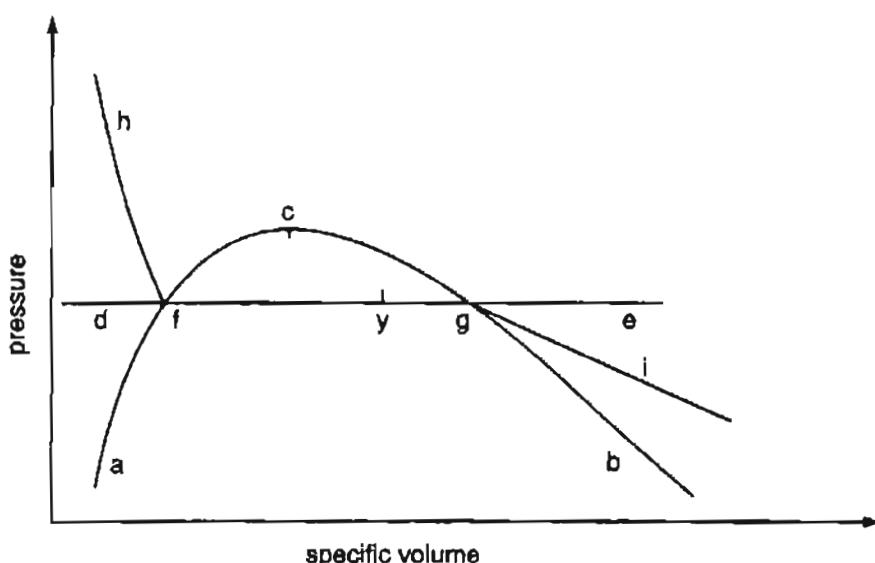

Figure P16.3
*16.3 Figure P16.3 is a phase diagram for a pure compound. On a copy of the diagram place the name in the following list next to the associated letter in the diagram: